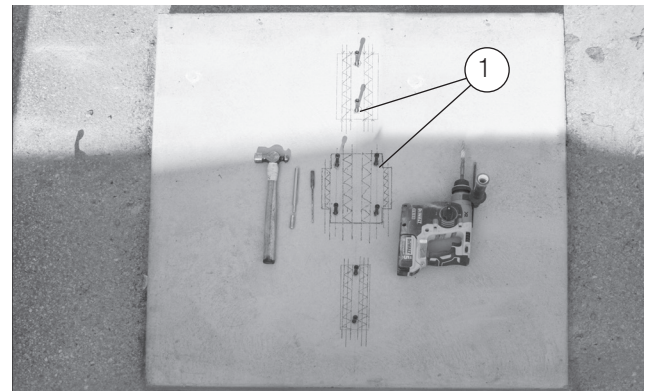

Figure 4-7:
6. Drill pilot holes for concrete anchors. Conductix-Wampfler recommends steel drop-in type anchors. See **Figure: 4-7**.
7. Be sure to drill depth of anchor only and hammer with set tool when anchor is flush with top of concrete. Follow concrete anchor manufacture's instructions. See **Figure: 4-7**.
8. Set steel drop-in anchors (requires a set tool). See **Figure: 4-7**.